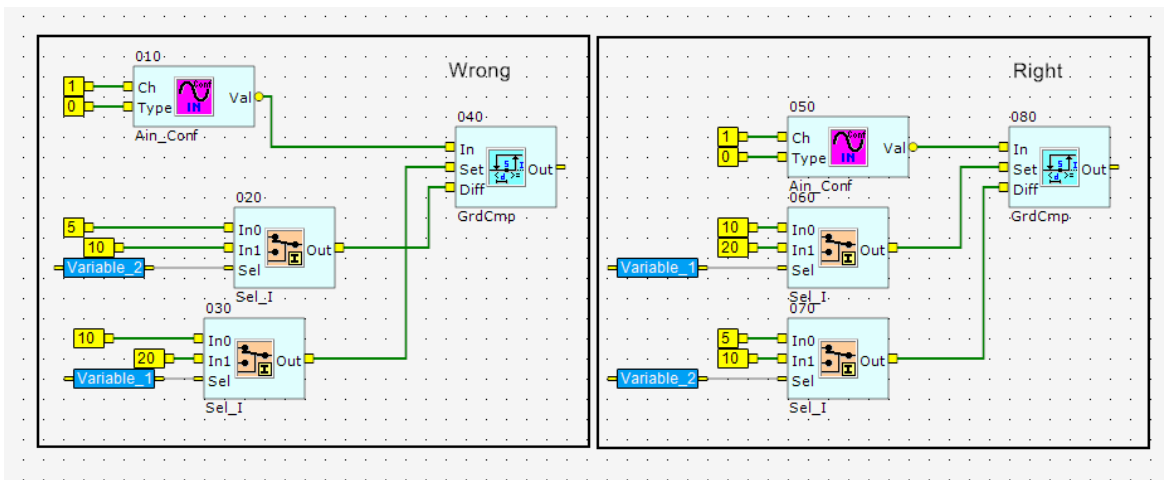

Figure 3.1
- 3.1 The atoms, macroblocks and variables should be aligned in columns (see Figure 3.1).
- 3.4 The paths of the wires must be "clean", avoid contorted paths (see Figure 3.1).
- 3.6 The variables and the constants must be connected to the pins with wires of the same length for reasons of visibility (see Figure 3.1).
- 3.7 Use lines to divide the functions (see Figure 3.1)